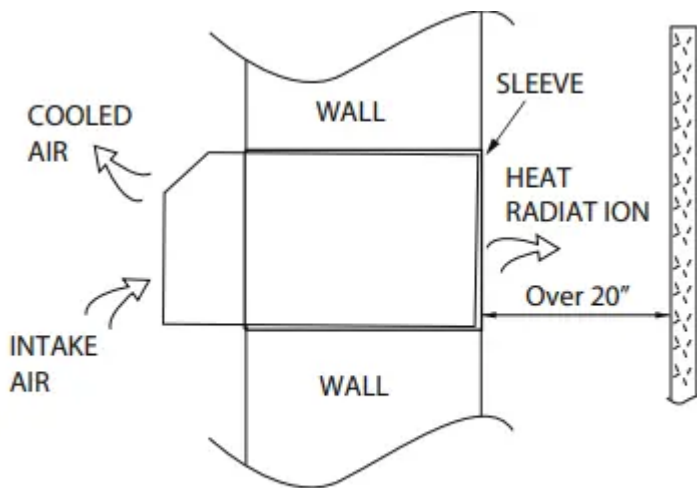

Fig. 6
- When installing the sleeve, make certain there is nothing within 20" of the back of the unit that would interfere with heat radiation and exhaust air flow (see Fig. 6).